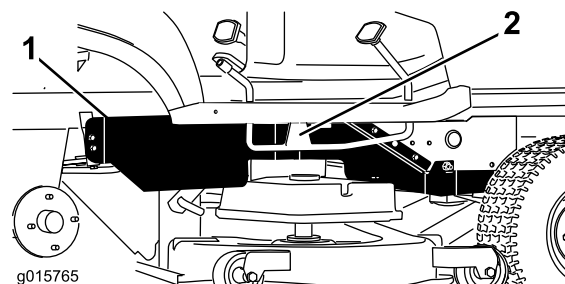

Figure 10
2. Position the right belt guard behind the traction pedal assembly and the switch mounted behind it and attach it to the frame of the machine as shown in Figure 10.